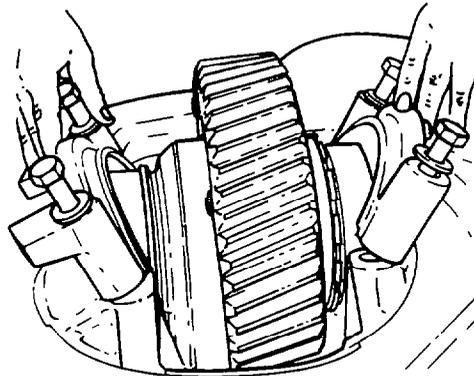

Fig. 294 — Removing Bearing Cup
g. Remove the bearing cups from the differential assembly and remove the bearing adjusting nut from the bearing cup (see fig. 294).